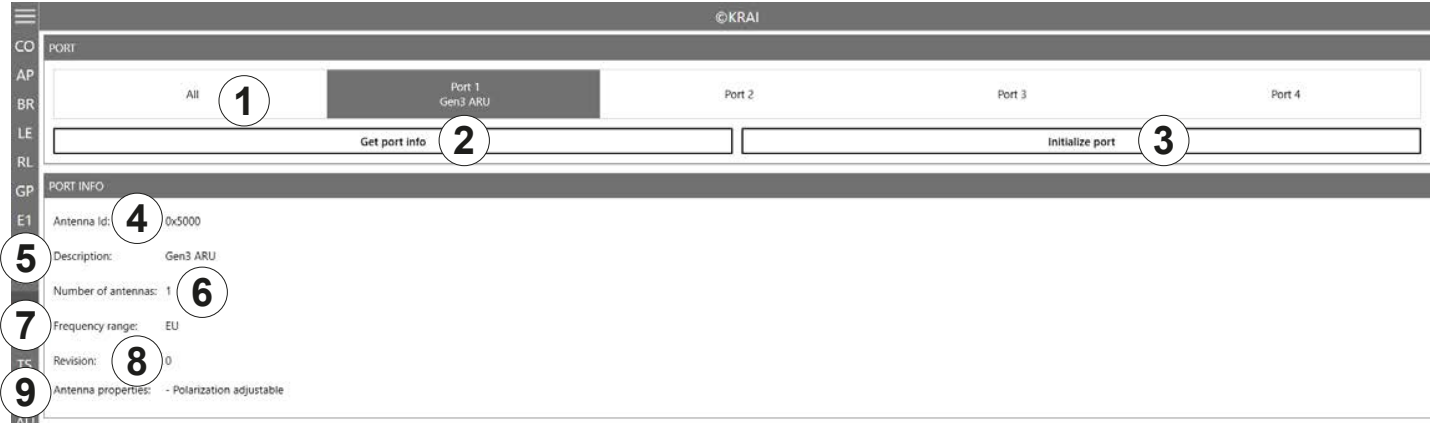

Fig. 78: @KRAI: polarisation
► To deactivate a tag, set a deactivation password that is not 0; see ② in Fig. 78.